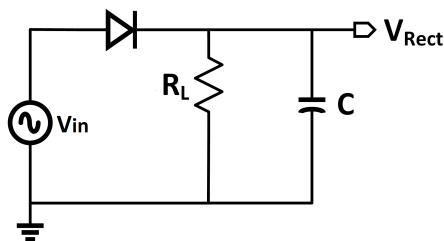

Figure 6: Half wave rectifier with a capacitor
You may also think about the output waveform as charging and discharging the capacitor. The charging of the capacitor follows the output voltage waveform up to the peak voltage, but the discharging will be slower and occur at a rate of the RC-time constant. This half-wave rectifier with a capacitor is shown in Fig. 6 below.
3. Perform a **transient** simulation on the circuits shown in Fig. 6 for the different values of resistors and capacitors in Table 2.